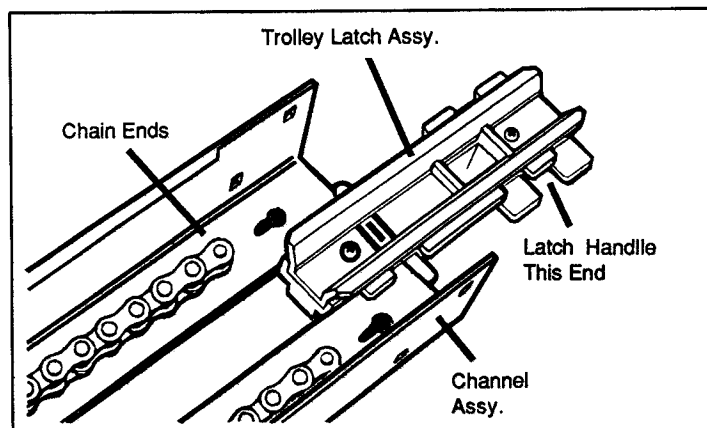

Figure 1
See Figure 1, Page 5
Step 1: Remove trolley latch assembly from parts pack and slide over the channel, flanges in the proper orientation (see Figure 1). Attach keps nut and sems bolt to hole located six inches from end of channel that is attached to the operator head.